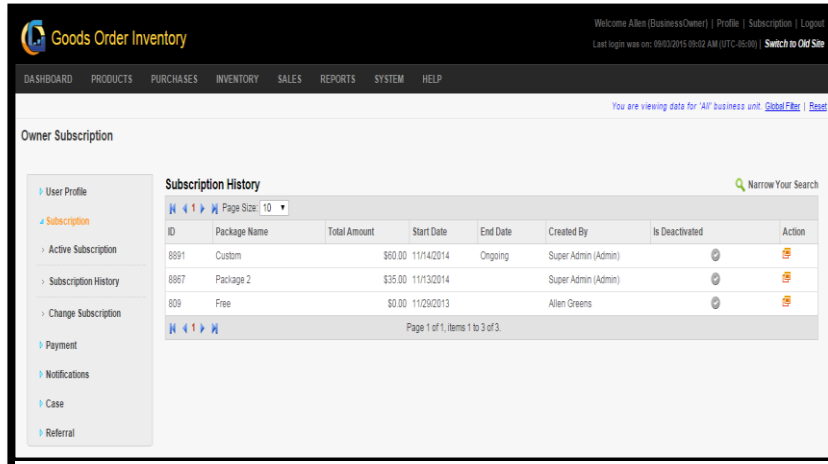

FIGURE 7.21.2
4. A sub menu will slide down; click on the “Subscription History” tab, Subscription History detail will be displayed by the system on the same page. Snapshot of the page is shown in the **(Figure 7.21.2)**